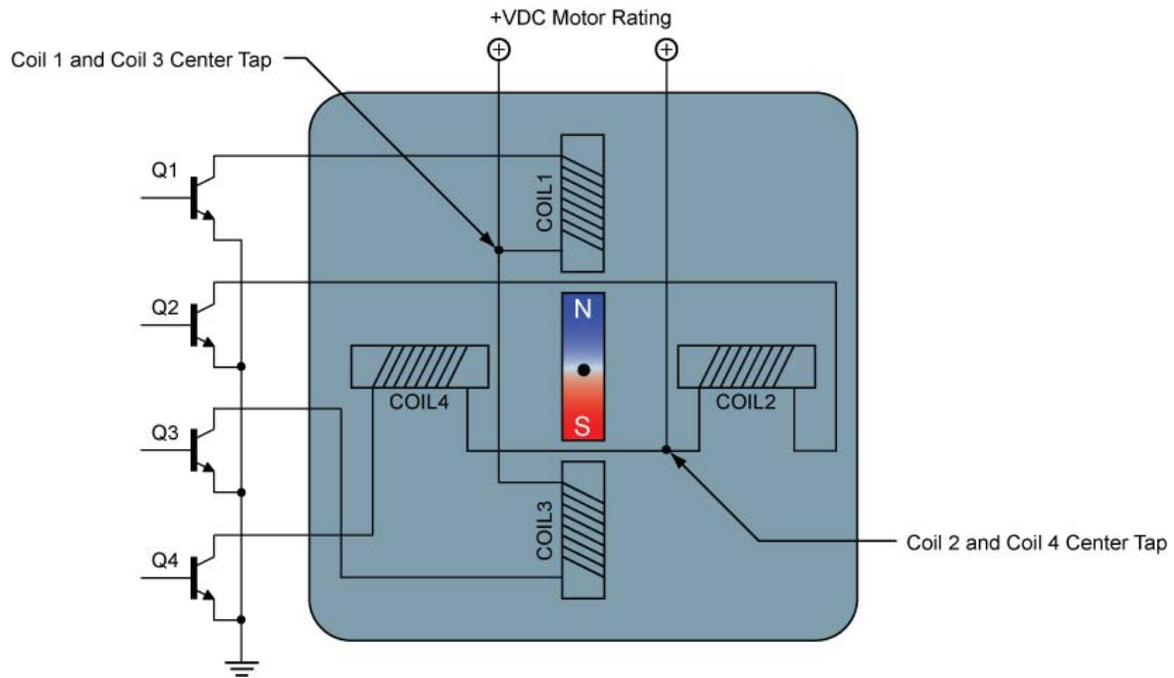

Figure 12: Connecting the Stepper Motor Leads
- In Figure 12, notice that Coil 1 and Coil 3 make up the same coil with one center tap. Also, Coil 2 and Coil 4 make up the second coil with another center tap. We must stagger the coil ends when connecting them to the transistors; we cannot connect them to consecutive transistors.